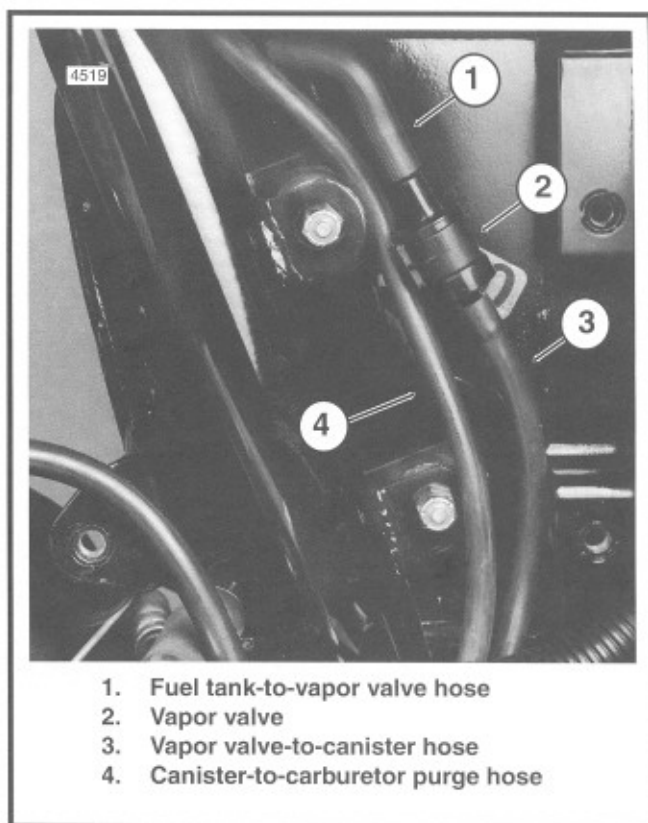

Figure 4-21. Vapor Valve and Hose Routing
Vapor Valve (Figure 4-21)
2. See Figure 4-21. Connect the vapor valve-to-canister hose (3) and the canister-to-carburetor purge hose to fittings on the left side of the carbon canister. Route both hoses forward through the clip on the left frame bottom tube. After running the hoses forward and then upward along the inboard side of the primary chaincase, route the hoses between the oil tank and battery tray. Connect the vapor valve-to-canister hose (3) to the bottom of the vapor valve (2). Connect the fuel tank-to-vapor valve hose (1) at the top.